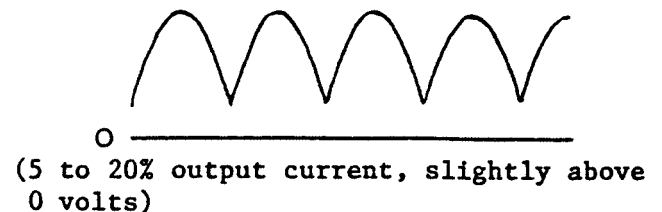

Figure 2.10. Current Reference
10. Carefully adjust the CURRENT LIMIT pot clockwise while observing the waveform on the oscilloscope until it looks like Figure 2.10.